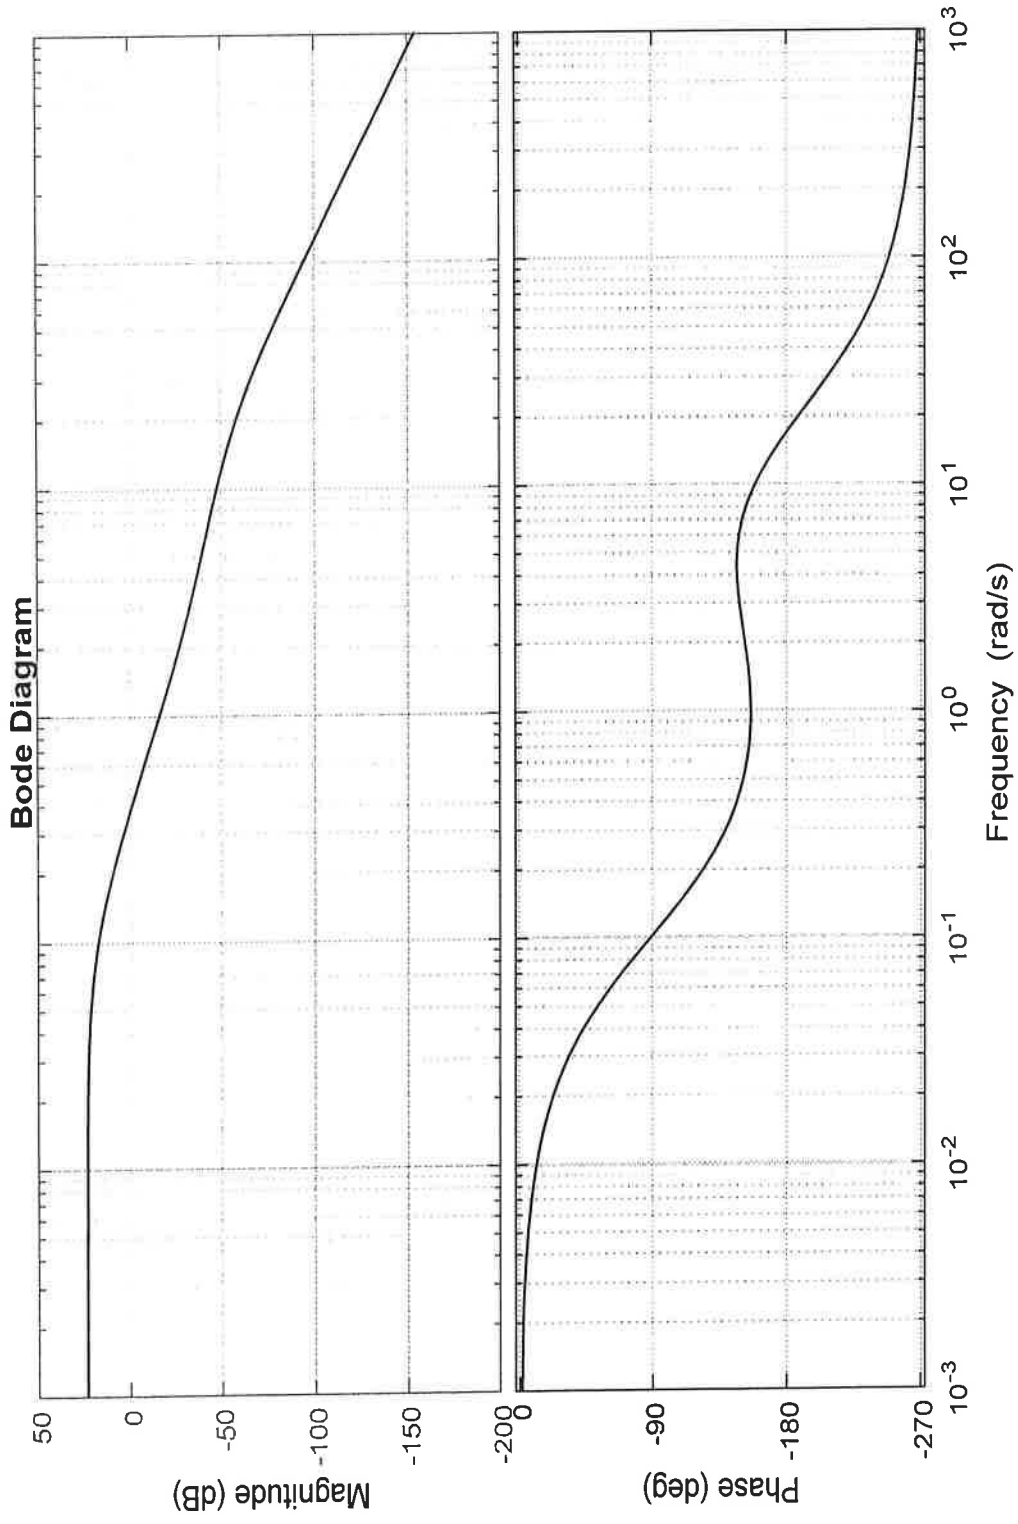

Figure Q6.2 - Frequency Response Plots of the Process $G(j\omega)$ in Question 5 and Question 6
- 3) (5 marks) Determine the second order dominant poles model, $G_{m3}(s)$, based on the Open Loop frequency response. The frequency response plots of $G(j\omega)$ are shown in Figure Q6.2 – note that it does not include the Proportional Gain.
Frequency response plots of $G(j\omega)$ are shown in Figure Q6.2 - note that the transfer function $G(s)$ in Question 6 is the same as in Question 5. Design requirements are: